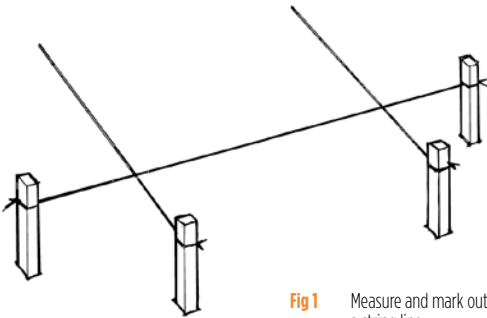

Fig 1 Measure and mark out the site with a string line.
- Measure and mark out the site using a string line (Fig 1).